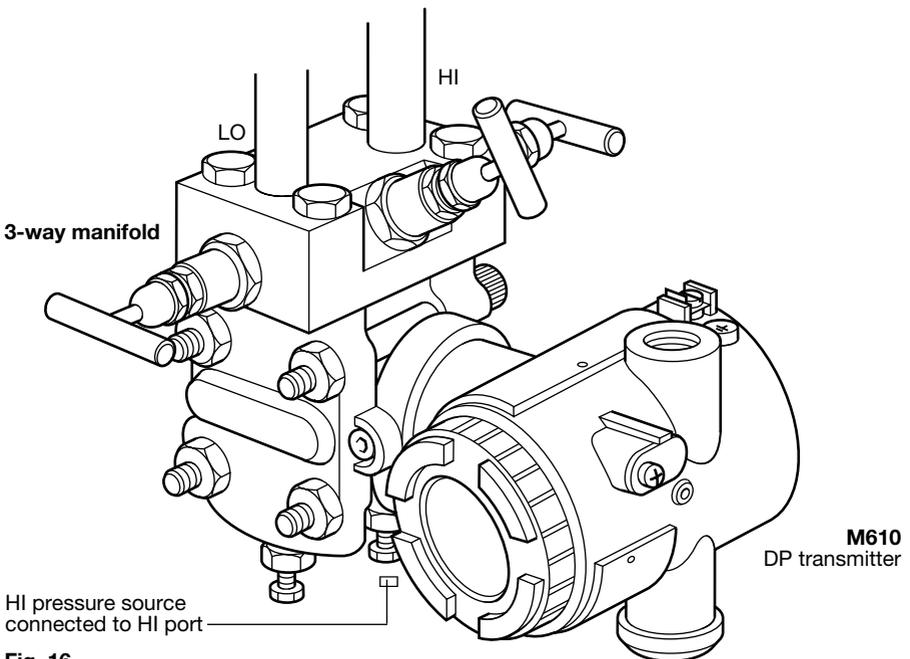

Fig. 16
- 7.2.7 Using a suitable precision pressure source attached to the HI pressure port of the DP transmitter as shown in Fig. 16, apply a pressure corresponding to the set pressure of the unit.